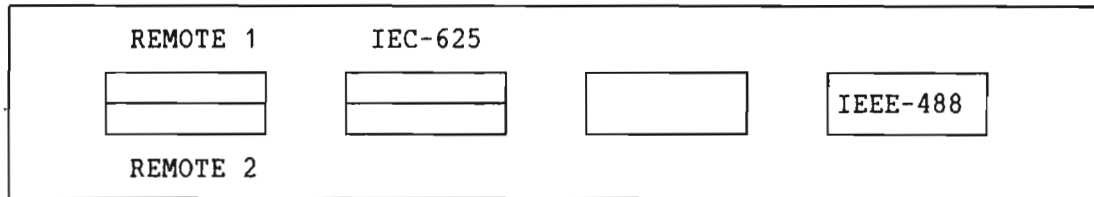

Fig. 11. The Computer's GPIB Contact Panel
Referring to figures 11 and 12:
- Insert the remote cable's connectors in one end of the cable into the corresponding D-connectors on the computer's GPIB contact panel (called Remote 1 and 2 in fig. 11).
Device connection referring to fig. 11 and 12: